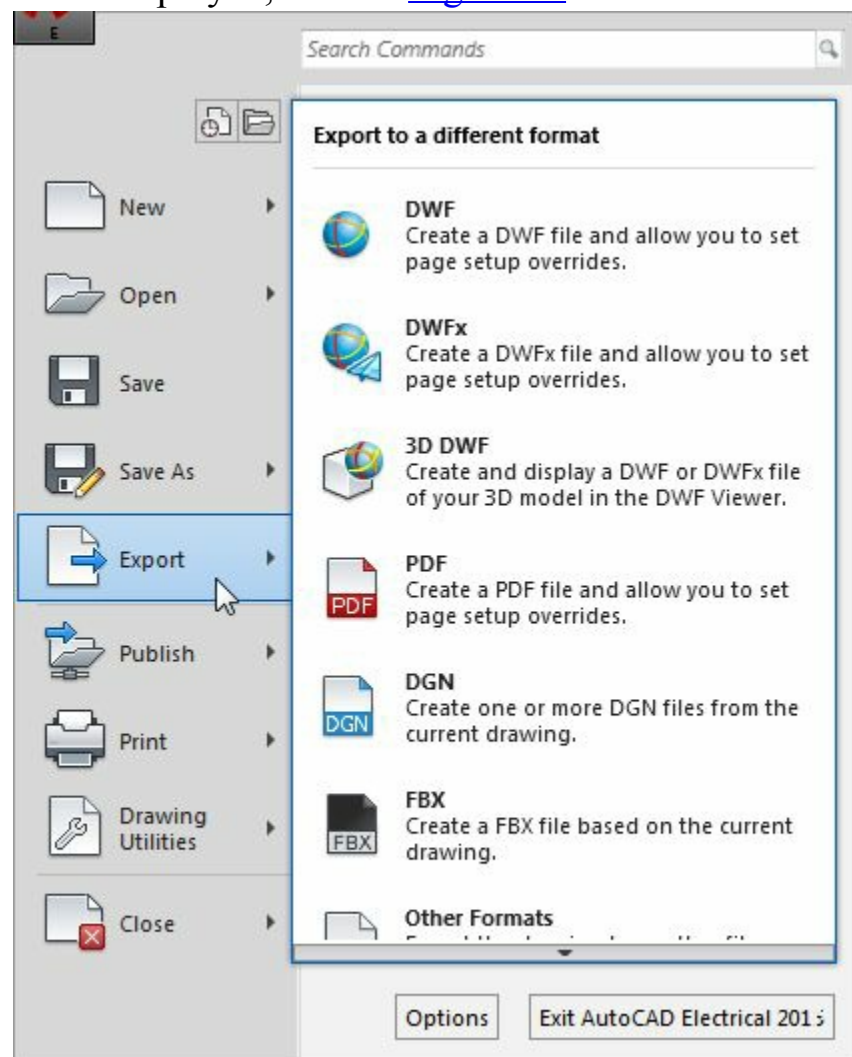

Figure-35. Export options
- Hold the cursor on the **Export** option in the **Application Menu**. The options related to exporting file are displayed; refer to Figure-35.